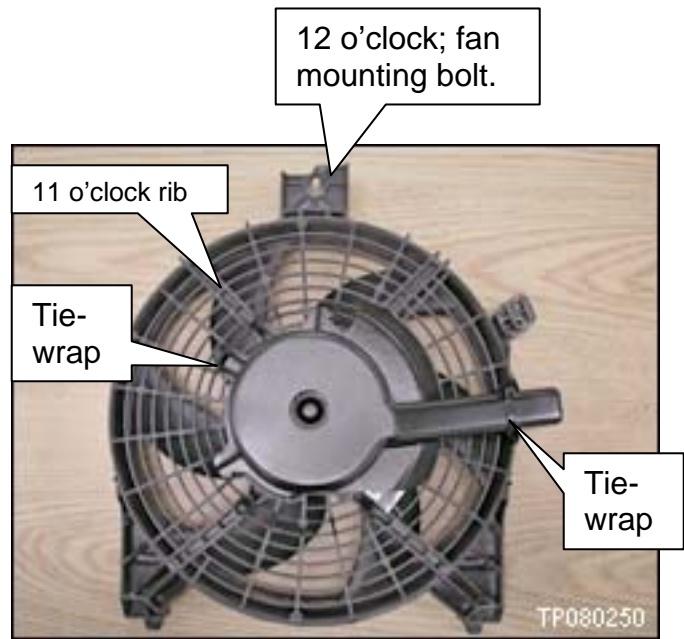

Figure D-22
- Refer to Figures D-22 through D-24 for tie-wrap locations.